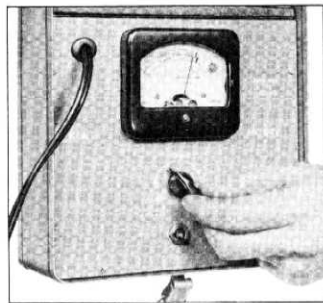

Fig. 72—Hold Sensitivity Adjustment—Rotating Meter Knob
4. Turn meter control knob counterclockwise (fig. 72) carefully and slowly just to the point where the headlamps switch to the upper beam. The meter pointer should fall within the "HOLD" sensitivity adjustment bar on meter scale.